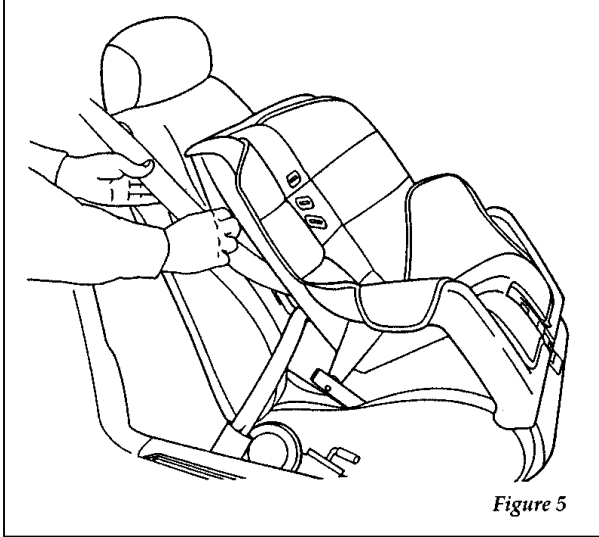

Figure 5
6. Allow the belt to retract. Pull up on the shoulder webbing. A clicking sound will be heard as the belt retracts. This indicates the retractor is in the automatic locking mode. Push down on the child seat while you pull up on the belt to remove any slack in the belt. See Figures 5 and 6.
7. Grasp belt close to child seat and pull on the shoulder belt portion of the combination lap/shoulder belt, then allow the belt to retract and remove all slack to securely tighten the child safety seat in the vehicle. See Figure 5.